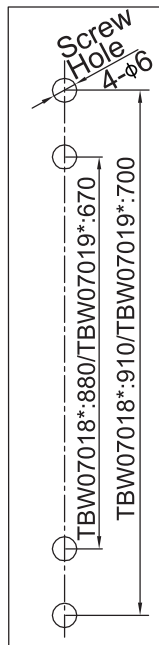

Figure 1
- 如图1，对照产品型号，在墙上合适位置打孔，保证4个孔在竖直方向，将膨胀套打入孔内。
1. As shown in Figure 1, referring to the product model, drill holes at the right position on the wall, ensuring the 4 holes at the vertical direction, and tap the wall anchors in.